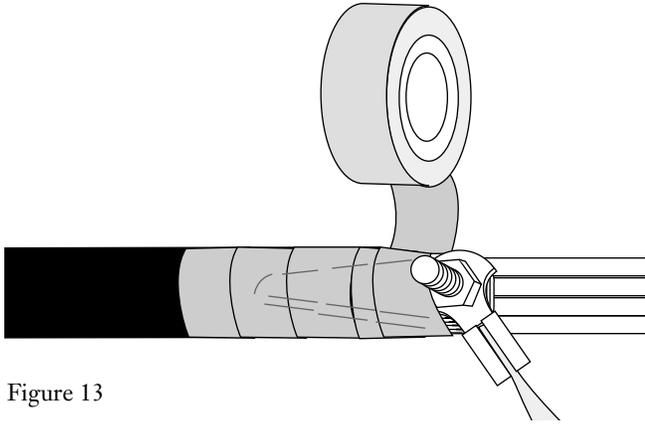

Figure 13
- d) Cover the grounding clamp and split portion of the sheath with vinyl tape (Figure 13).